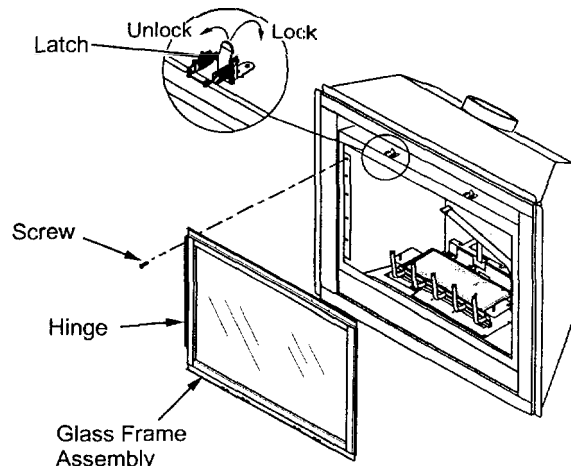

Figure 42 - Removing/Replacing Glass Door
2. Lift up on latches to unlock. There are two on top of firebox and two below firebox that hold glass door in place (see Figure 42).
3. While holding glass door to prevent it from falling and causing injury, remove the five screws from the hinge located on the left side of door frame assembly (see Figure 42).
5. Close glass door frame. Lock latches by placing the bar under the tab on door and pushing down and **back** on latch (see Figure 42).